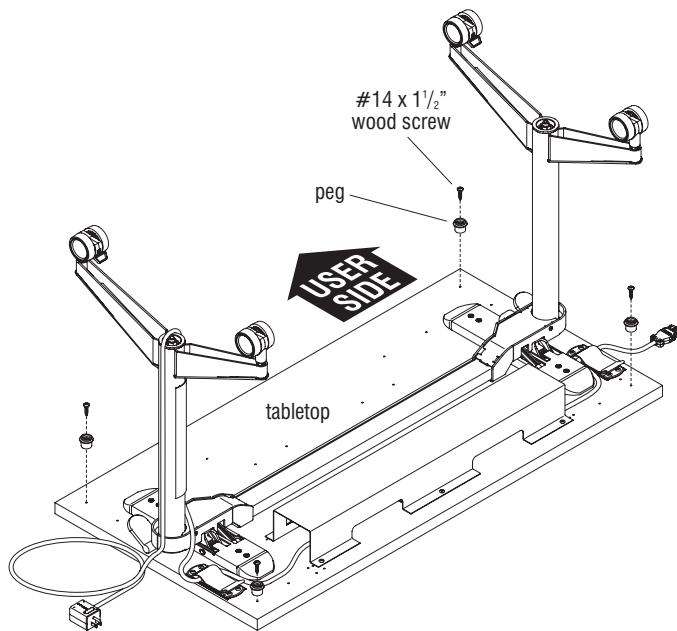

Figure 1
1. Locate the four pre-drilled peg mounting locations, one at each corner of the tabletop. Install a peg to each location using a #14 x 1 1/2" wood screw at each peg mounting location (Figure 1).